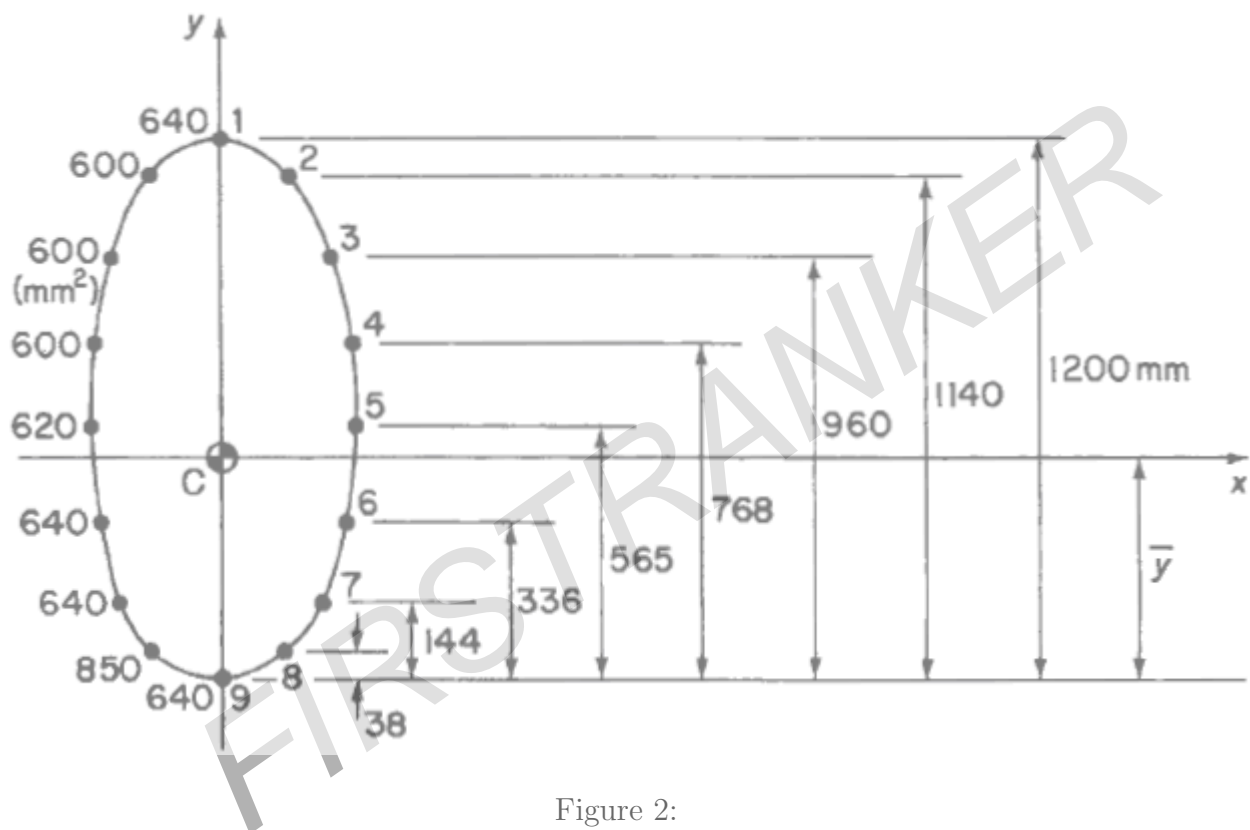

Figure 2:
8. The fuselage as shown in Figure 2 is subjected to a bending moment of 100 kNm applied in the vertical plane of symmetry. If the section has been completely idealized into a combination of direct stress carrying booms and panels carrying only shear stress determine the direct stress in each boom. [16]